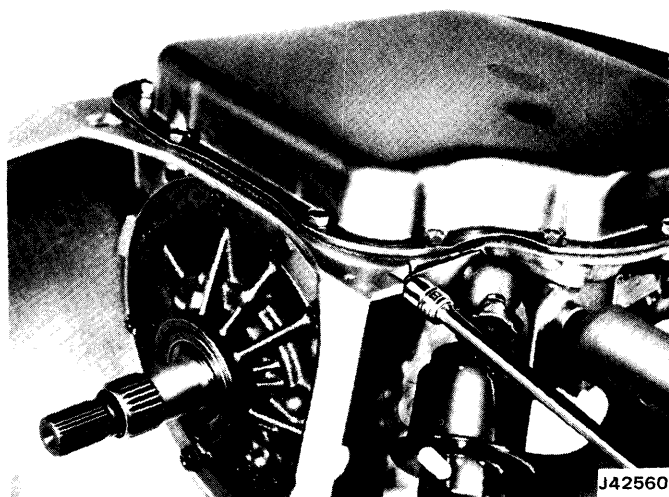

Fig. 7-143 Installing Modulator Valve Retainer
(1) Insert modulator valve into transmission case, stem end outward.
(2) Install adapter at valve and install retainer on transmission case. Tighten attaching bolts to 18 foot-pounds torque.
(3) Install O-ring seal on vacuum diaphragm and install diaphragm adapter.
(4) Install retainer-to-transmission case attaching bolts. Tighten bolts to 18 foot-pounds torque (fig. 7-143).